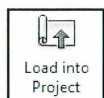

Fig. 06.72.
- Klik *Load into Project* (Fig. 06.72).